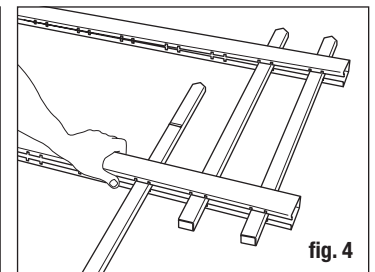

fig. 4
- Continue this process until all pickets are inserted into the rail with the tabs and notches aligned (fig. 4).